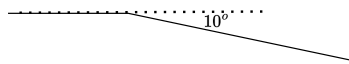
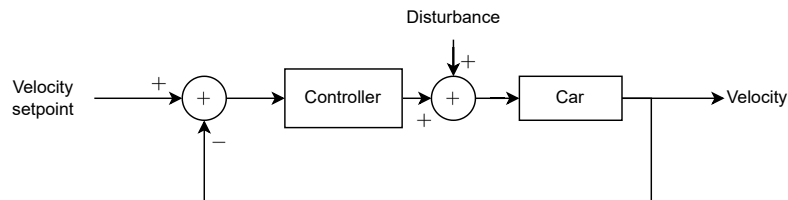

Figure 3: Road slope
Figure 4: Control block diagram with disturbance
- (f) (3 marks) You are driving at your desired speed of 50 km/hr when the road slopes down at an angle of 10 degrees (see Fig. 3). Model the force applied on the car due to the slope as a disturbance to the car that influences the input to $G(s)$ (see Fig. 4). Plot the controller's output and the car's velocity as the car starts descending the slope. Is the system able handle the disturbance and keep the car driving at 50 km/hr?